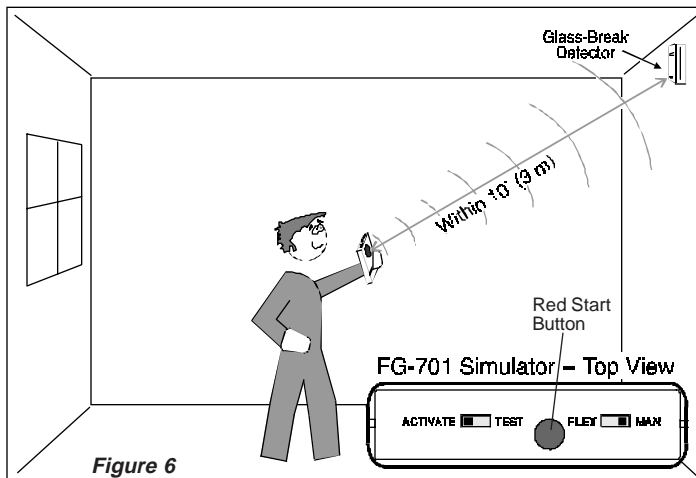

Figure 6
- 3. Point the front of the simulator at the unit and press the red start button. (Refer to Figure 6.)